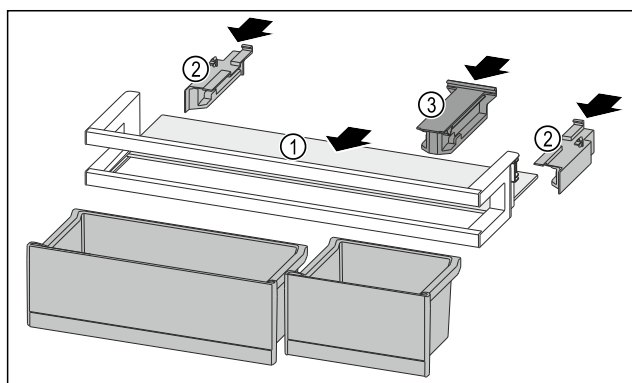

Fig. 205
- Push the shelf Fig. 205 (1) into the side recesses.
- Insert the side parts Fig. 205 (2).
- Insert the holding part Fig. 205 (3).